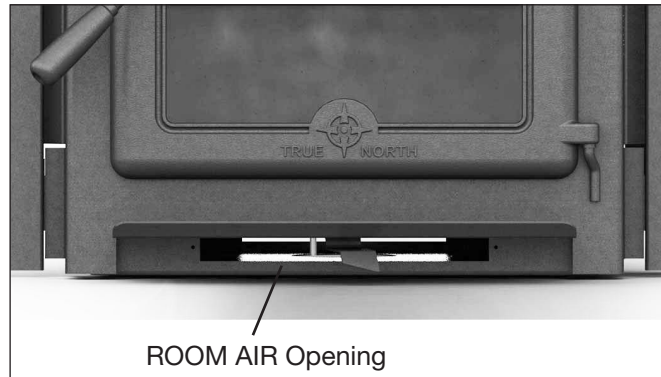
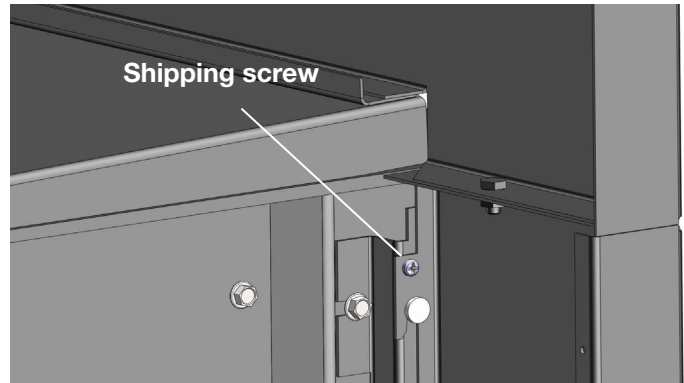

Figure10:room air opening.
Figure 12: TN20.INSA Shipping screw
1. Remove the shipping screws located at the top of each surround side panel (*fig. 10*). remove the two screws holding the Fan Controls on the side panel and remove the controls (*fig. 12*). Lift to remove both panels from the unit.